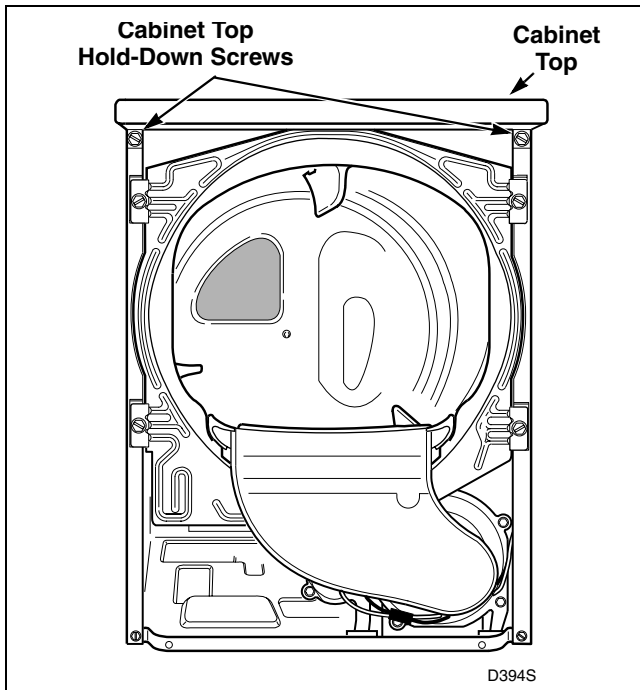

Figure 10
- f. Remove two screws holding cabinet top to front flange of cabinet. Refer to *Figure 10*.